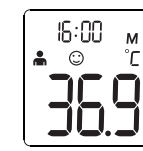

Figure 6
2. The thermometer will automatically memorize the last 10 temperature readings. Each memory also records the measurement date/time mode icon. Each time the ON BUTTON is pressed, the screen displays past readings that correspond with a number 1-10. The number 1 reflects the most recent reading, while the number 10 reflects the oldest reading stored in memory.(See Figure 6)